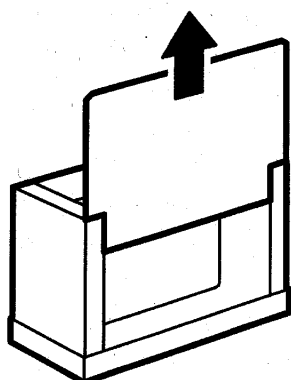

fig. 2
- ❸ Lift up the front cardboard (fig. 2).